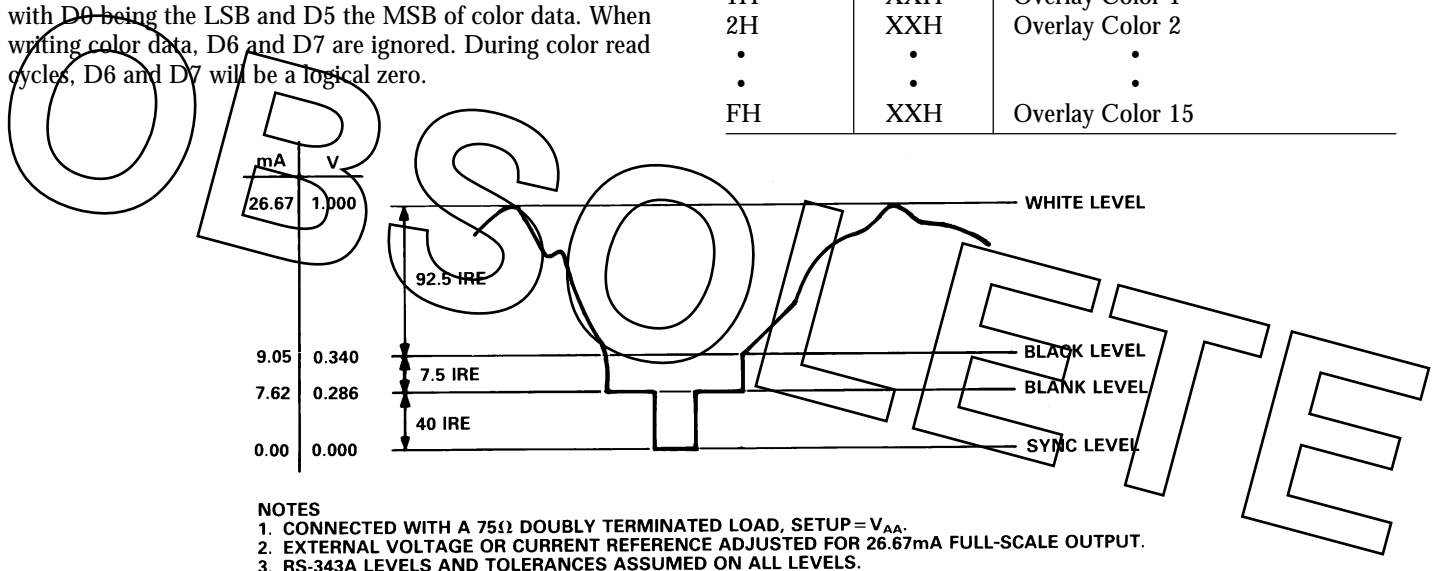

Figure 3. Composite Video Output Waveform (SETUP = V_{AA})
I_{REF}	Full-scale adjust control. Note that the IRE relationships in Figures 3 and 4 are maintained, regardless of the full-scale output current. When using an external voltage reference (Figure 5), a resistor (R_{SET}) connected between this pin and GND controls the magnitude of the full-scale video signal. The relationship between R_{SET} and the full-scale output current on each output is: $R_{SET} (\Omega) = K \times 1,000 \times V_{REF} (V) / I_{OUT} (mA)$ K is defined in the table below, along with corresponding R_{SET} values for doubly terminated 75 Ω loads. When using an external current reference (Figure 6), the relationship between I_{REF} and the full-scale output current on each output is: $I_{REF} (mA) = I_{OUT} (mA) / K$
appropriately weighted currents to the analog outputs, producing the specific output levels required for video applications, as illustrated in Figures 3 and 4. Tables IV and V detail how the SYNC and BLANK inputs modify the output levels.